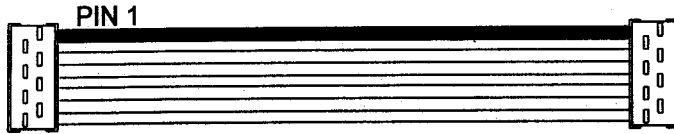

fig 1
9. Connect the jumper supplied, (see figure 1 above) between the two cards. Pin one to pin one on both connectors. The red stripe denotes pin one on the jumper. **Note:** This will require the jumper to be twisted 180 degrees between cards. If the ribbon is fitted reversed i.e. pin one to pin eight, the system will still function but left and right channels will be reversed.